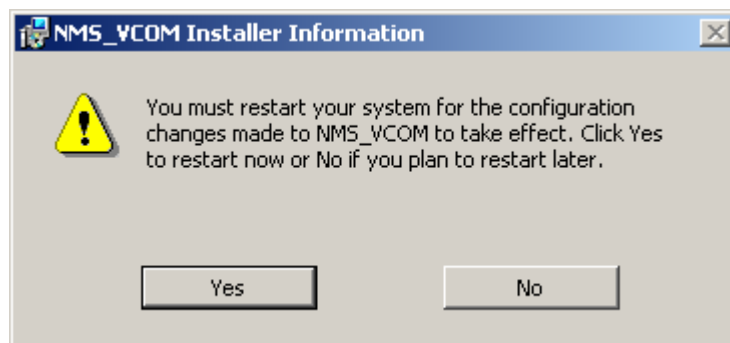

Figure 36. Screen Prompting You to Reboot
- Click **Finish**. The screen in Figure 36 appears, prompting you to reboot the computer.